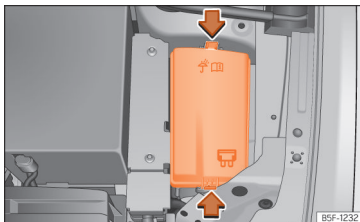

Fig. 222 In the engine compartment: lid of the fuse box.
- Press the locking tabs to unlock the fuse box cover »» Fig. 222.